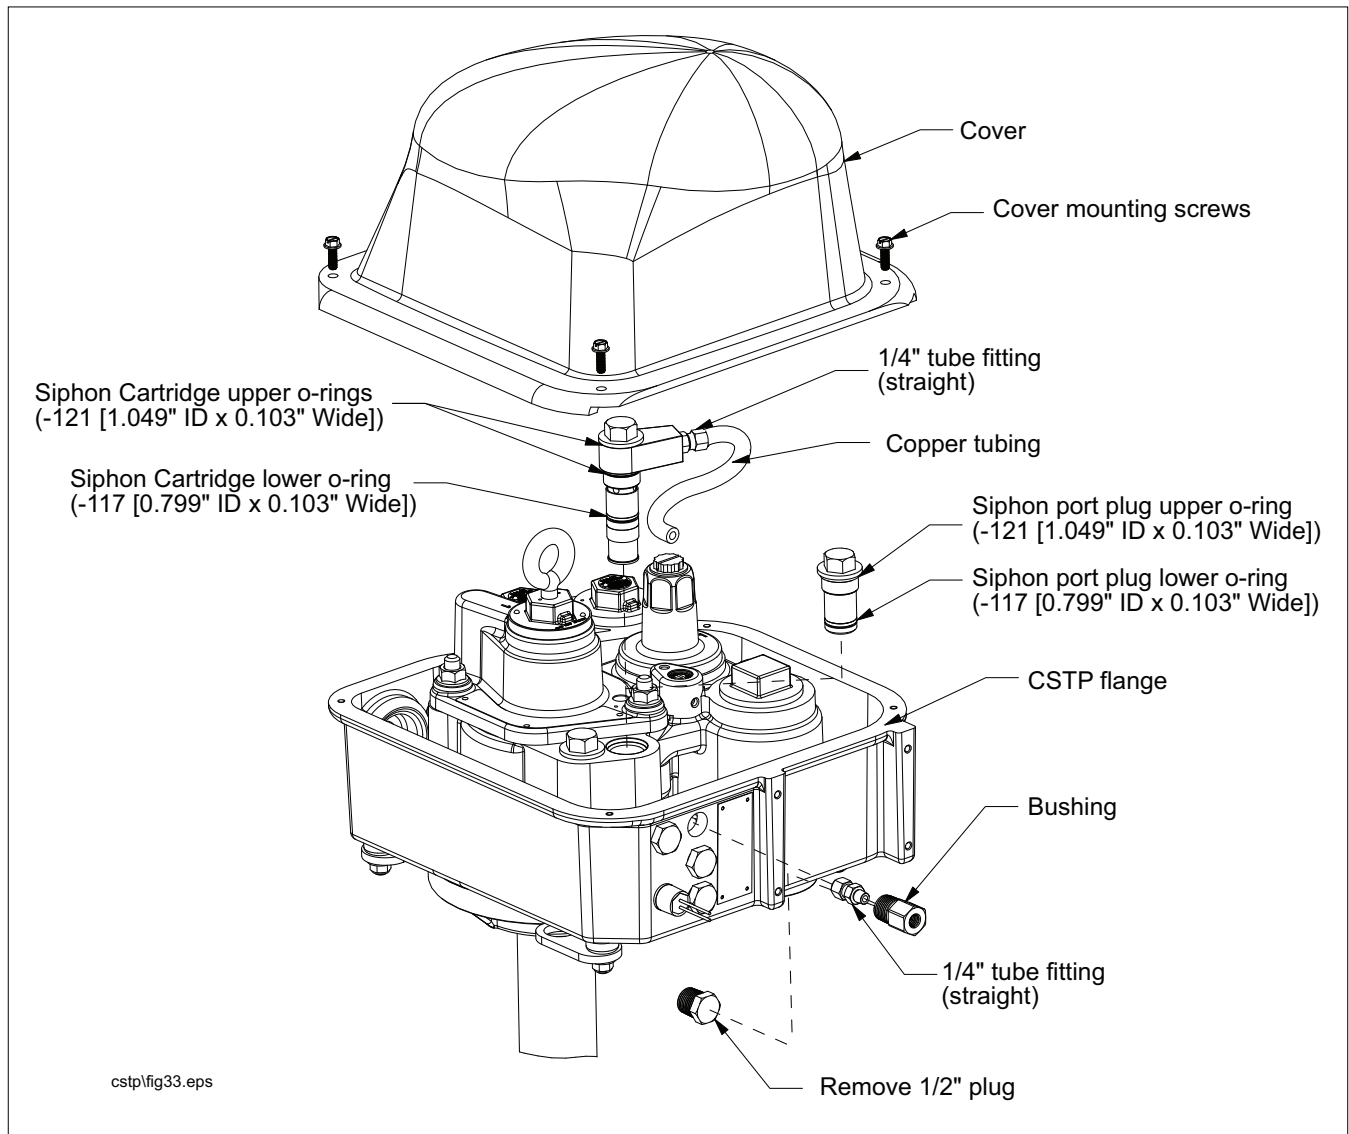

Figure 37. Inserting Siphon Assembly Into Manifold
8. Remove one of the two siphon port plugs from the manifold (see Figure 37).
14. Remove and discard the 1/2-inch plug on the CSTP secondary wall (see Figure 37).
15. Install the bushing (apply an adequate amount of fresh, UL classified for petroleum, non-setting thread sealant to the threads) into the 1/2-inch port and torque to 30 ft-lbs (41 N•m) (see Figure 37).